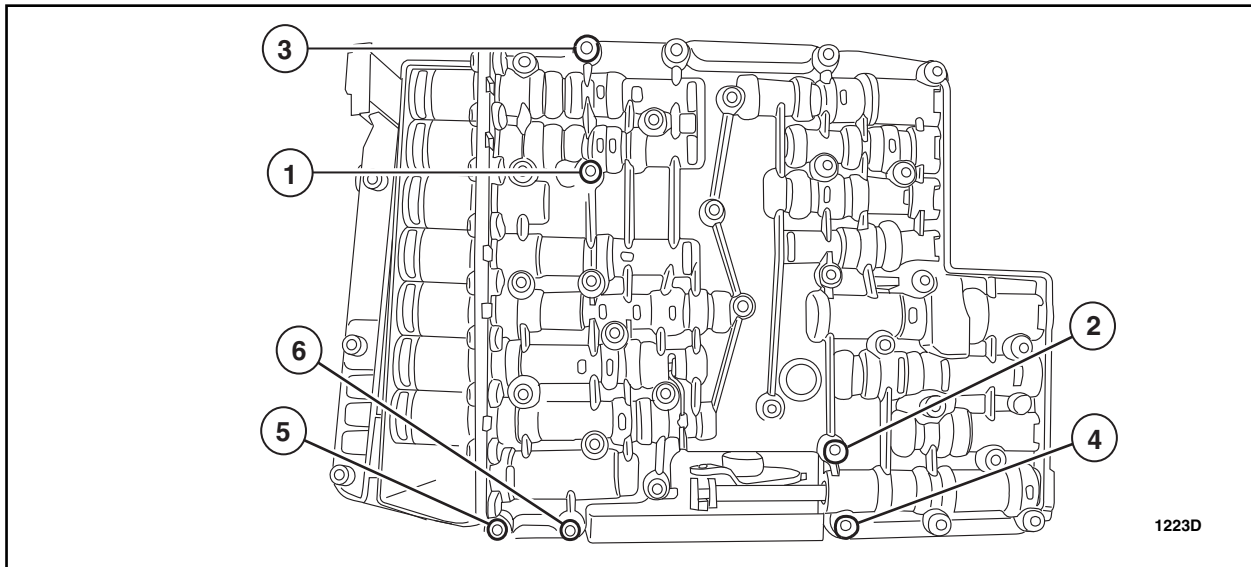

FIGURE 5
7. Tighten the long bolts to 53 lb.in (6 Nm) in the sequence shown. See Figure 5.